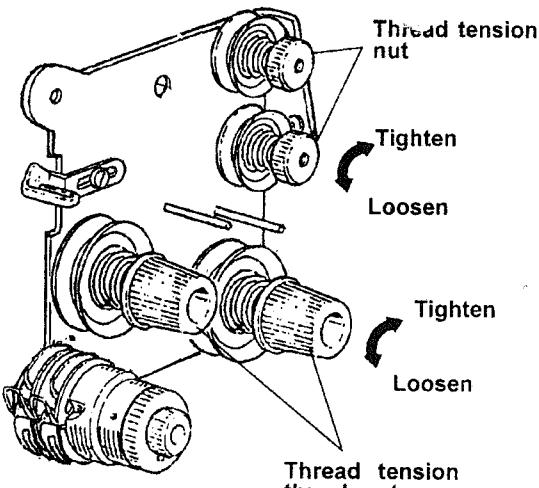

Fig.10
11.Adjustment of upper thread (Fig.10):